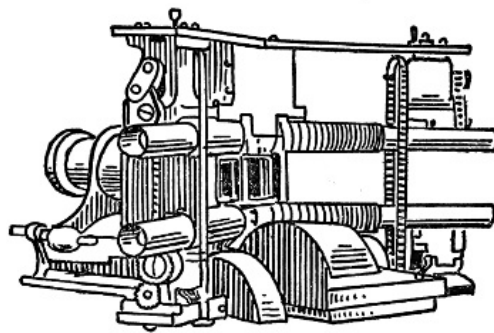

FIG. 118. AN ATTEMPT TO IMPROVE THE MOVIES
Moving Pictures.—Three great improvements must be made in the moving picture industry before it will take on anything like perfection, and these are (1) a film that is not easily broken, is as transparent as glass and is fire proof; (2) pictures that are photographed on the film and projected on the screen in their natural colors, and (3) moving pictures that are made and projected on the principle of the *stereoscope* so that the picture will stand out true to life in color, time and space. The last word in moving picture machines at this writing is shown in Fig. 118.